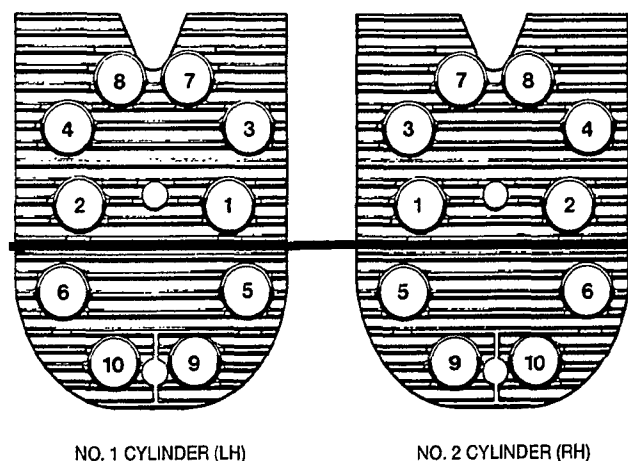

FIGURE 30. CYLINDER HEAD TORQUE SEQUENCE
3. Follow the head torque sequence shown in Figure 30. Tighten all nuts to 5 ft-lbs (7 Nm), then 10 ft-lbs (14 Nm), then to the torque specified in **ASSEMBLY TORQUES**. Recheck all nuts for correct torque.